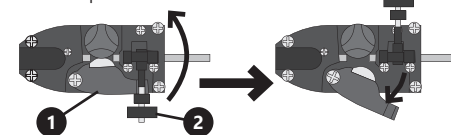

Fig. 5.
- (see Fig. 5) Bend out the pressure roller control knob (2). The pressure roller (1) should also pop out from its position.